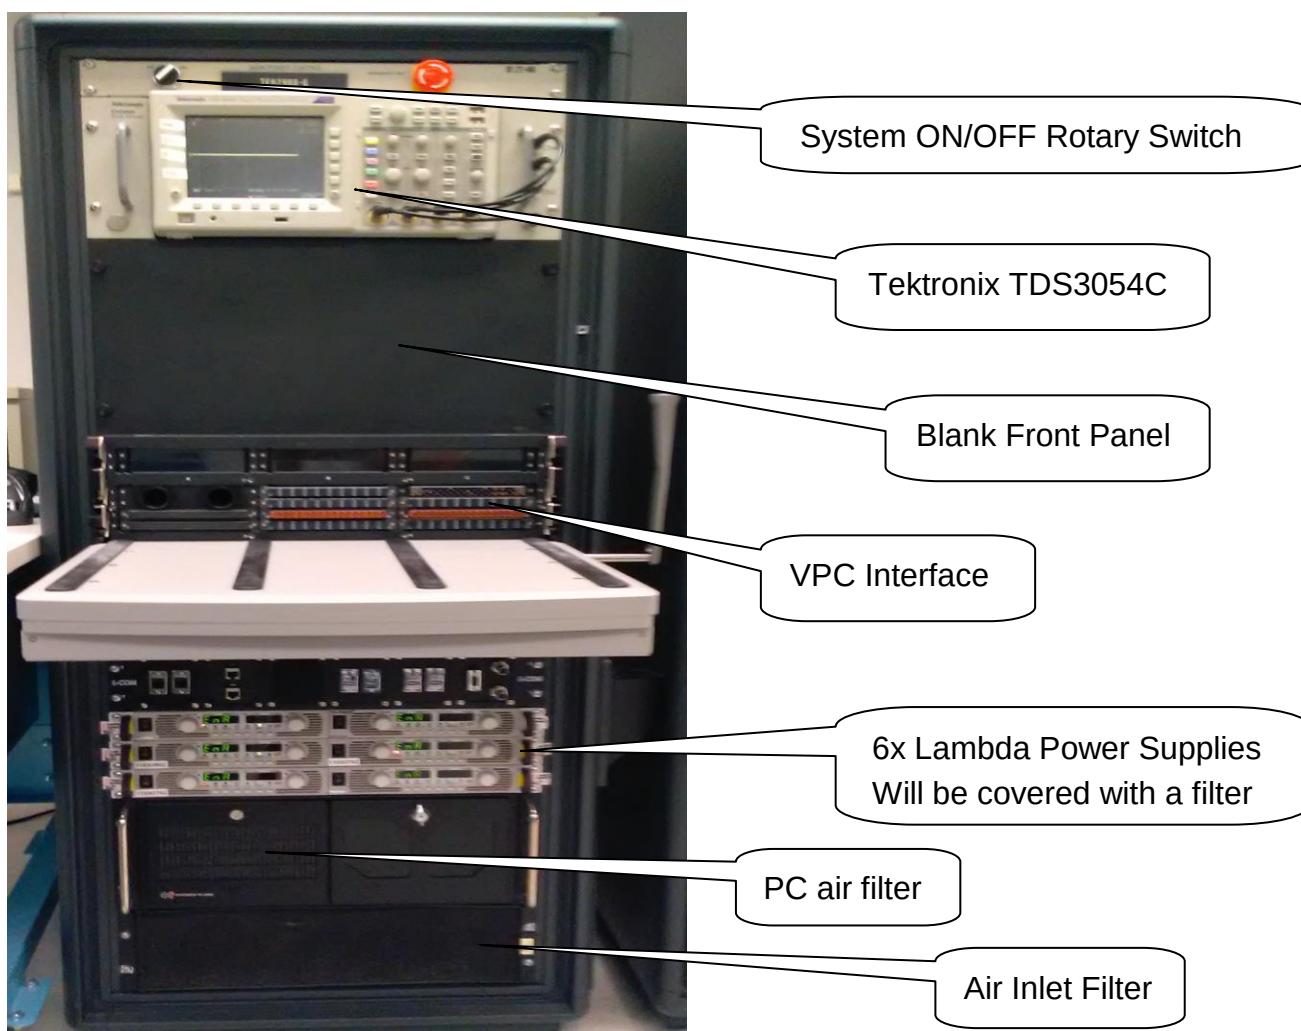

Figure 1
- 2.4. Inspect the VPC Interface (Figure 1). Vacuum the connector blocks. Ensure rows 5 and 6 contain blank panels.